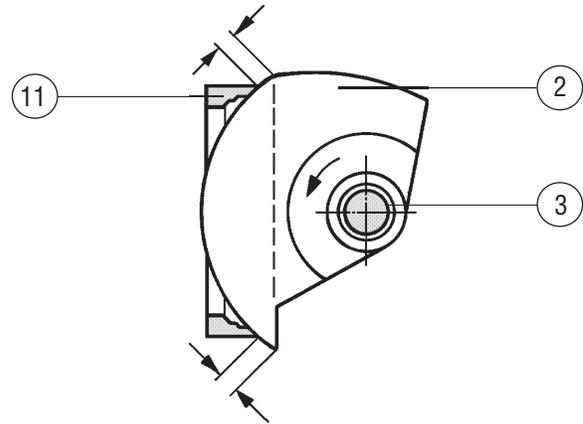

Fig. 5. Locating of the ball sector sphere when adjusting the actuator
The travel of the ball sector should be restricted to 90°, which is the travel necessary between fully open and fully closed. If the sector is turned beyond this range, the sealing surfaces of the sector and seat ring may be damaged when an attempt is made to turn the ball sector back to the correct position and the sector may jam against the seat ring. In practice, this is prevented by the indicating pin which will come into contact with the bolts retaining the top cover if an attempt is made to turn the ball sector outside the range between fully open and fully closed. When adjusting the actuator, make sure that, in the closed position, the sphere of the ball sector (2) is located opposite the seat ring (11), i.e. that the sphere projects beyond the seat ring by equal amounts on each side of the seat as shown in Fig. 5.